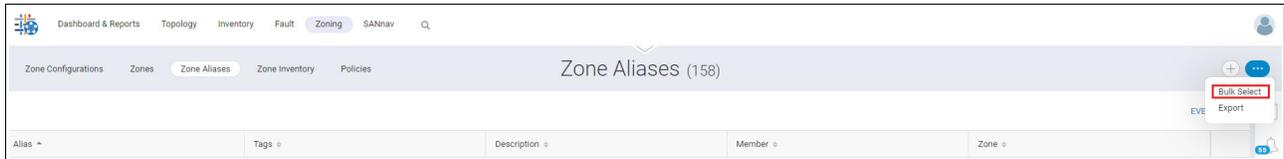

Figure 5-32 Bulk Select alias
2. Click **More (...)** at the upper right of the window, and then select **Bulk Select**, as shown in Figure 5-32.